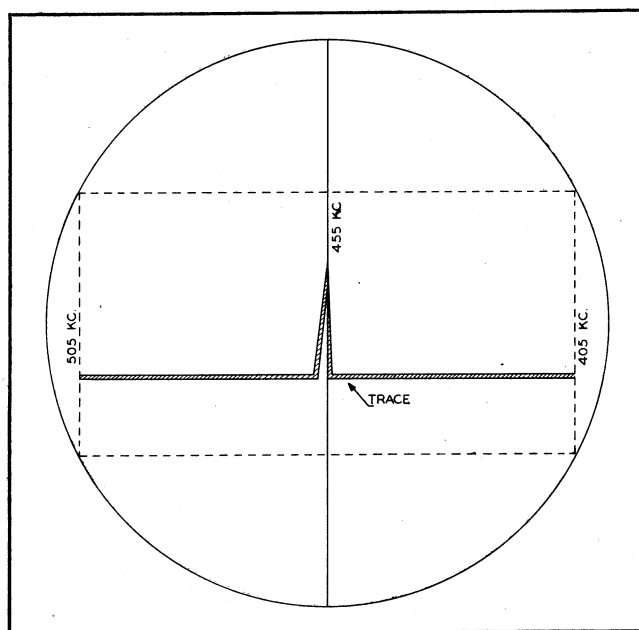
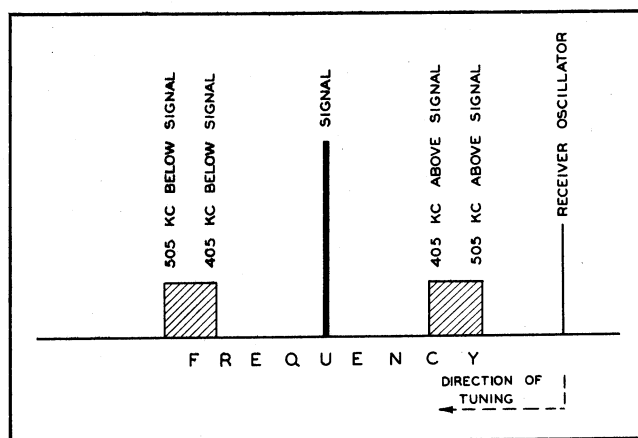

Figure 4-2. Diagram of Adapter Screen
Figure 4-3. Diagram of Frequency Spectrum and Image
b. Refer to figure 4-2. The adapter scans a band of frequencies 100 kilocycles wide for channel A. The lowest frequency visible on the screen will be 405 kilocycles. (The r-f frequency from which it was converted depends on the setting of the receiver tuning dial.) The highest frequency visible will be 505 kilocycles. The center frequency will be 455 kilocycles and will be the signal to which the receiver is fully tuned.
c. Now refer to figure 4-3. If the receiver oscillator is tuned from high to low frequencies, and if but one signal is present, there will be a point 505 kilocycles above the signal which will be reached first. This peak will appear on the left hand side of the adapter screen. (See fig. 4-2.) If the receiver frequency is lowered, the signal will move across the screen to center, then will disappear at the right-hand edge of the screen.